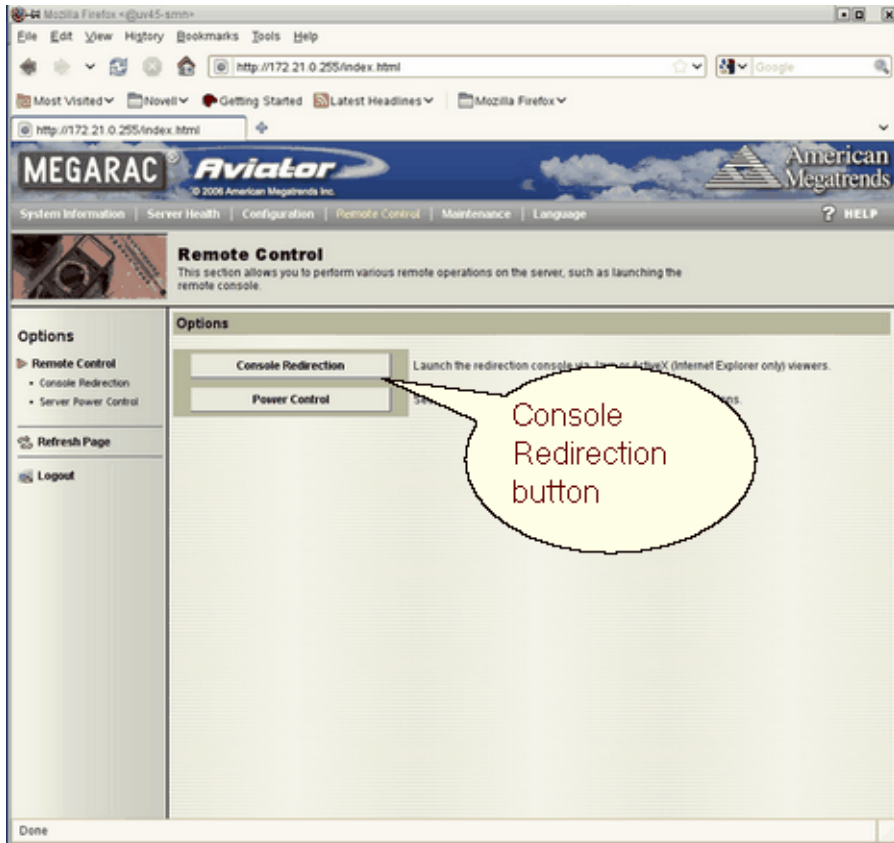

Figure 3-3 BMC Remote Control Screen
6. The **Remote Control** screen appears, as shown in Figure 3-3 on page 38. Click on the **Console Redirection** button.